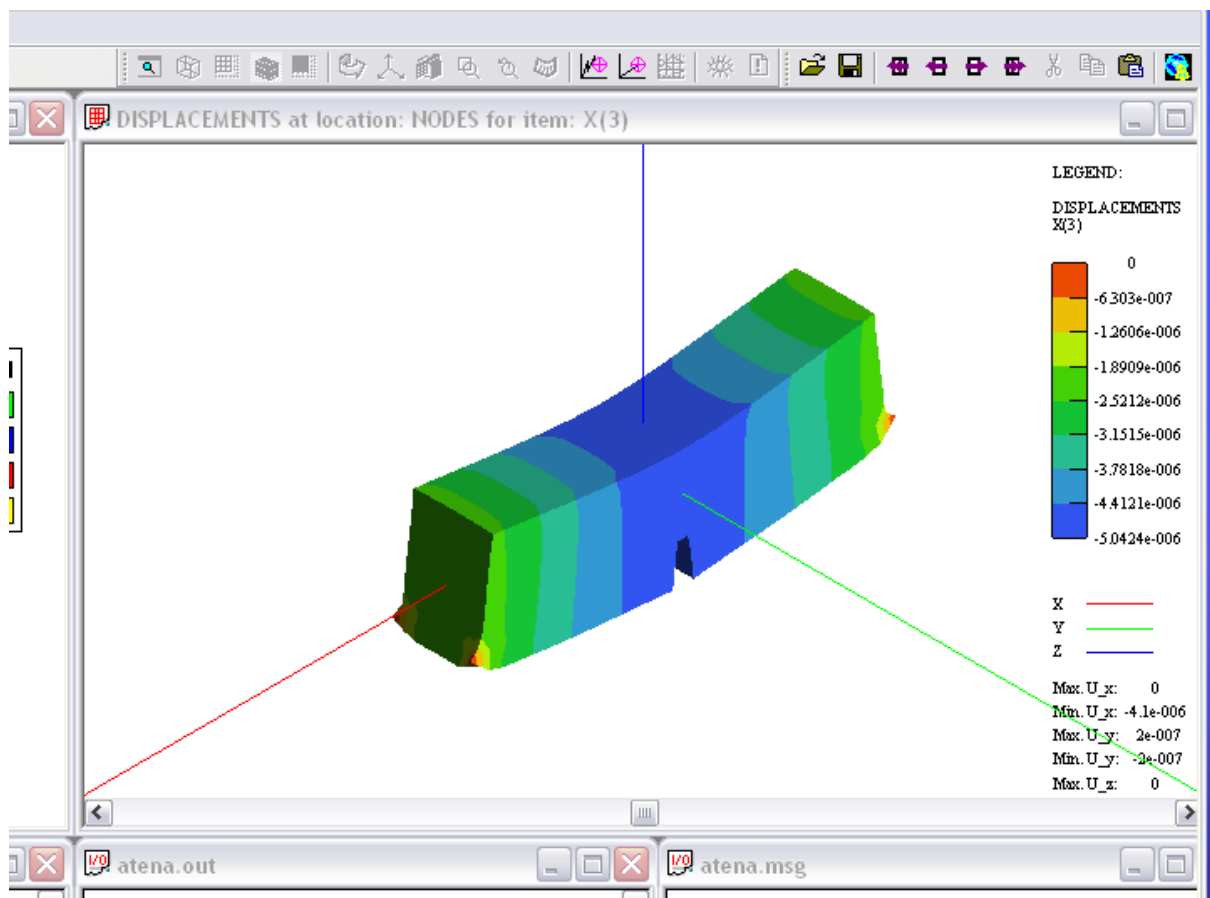

Figure 6 Postprocessing window
- Predefined projection. This sheet is the most commonly used sheet for definition of projection parameters. X/Y/Z means projection in direction of aforementioned axis; +/- sign is used for positive/ negative direction of the axis. As an example, depress $-X-Y-Z$ button to watch the scene as shown in Figure 6, (the red/gree/blue line is X/Y/Z axis respectively). The other buttons control lighting of the scene and option of immediate or postponed reaction on changes of the projection setting buttons.